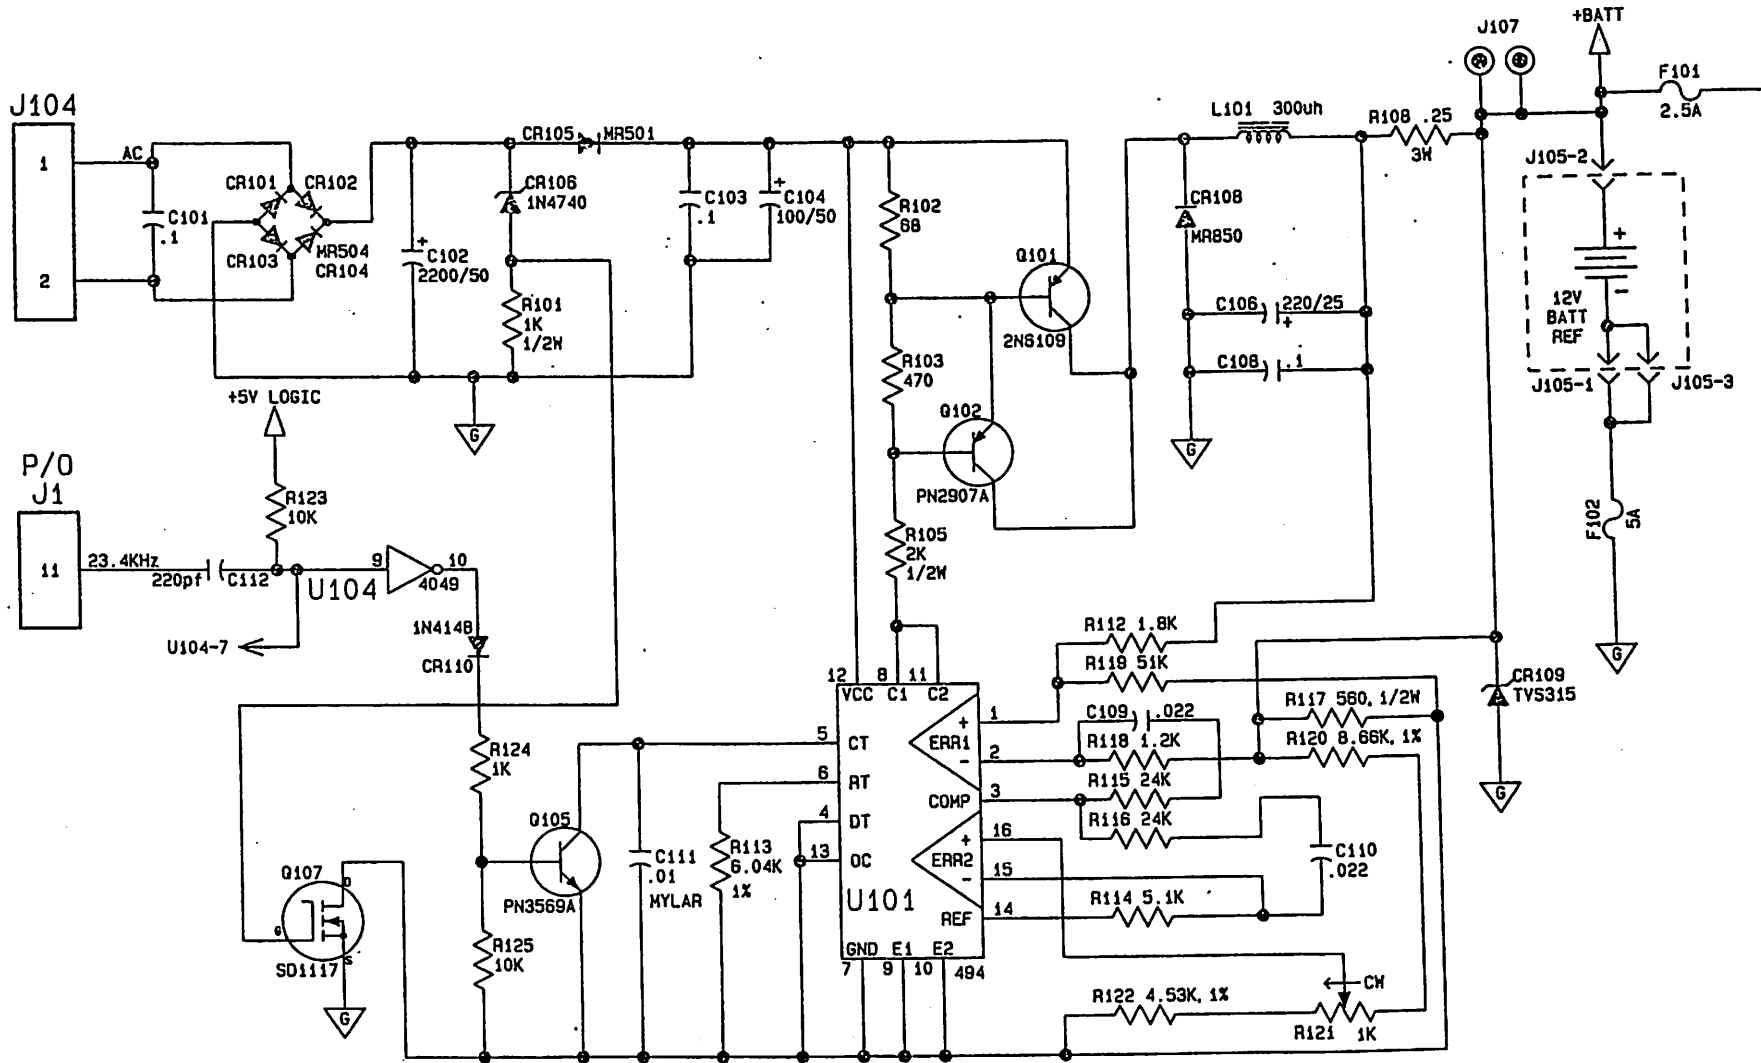

Figure 3-25. Rectifier, Line Regulator, and Battery Charger
Referring to figure 3-25, diodes CR101 through CR104 and filter capacitor C102 rectify and filter the voltage from the secondary of T1 to an unregulated voltage of nominally 28 VDC.
3.9.2 Battery Charger Regulator (figure 3-25)
3.9.3 Fuses (figure 3-25)